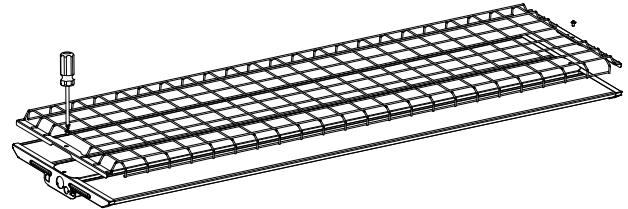

Figure 8
Step2. Place the wire guard on the lamp and fix it with screws (Figure 8).